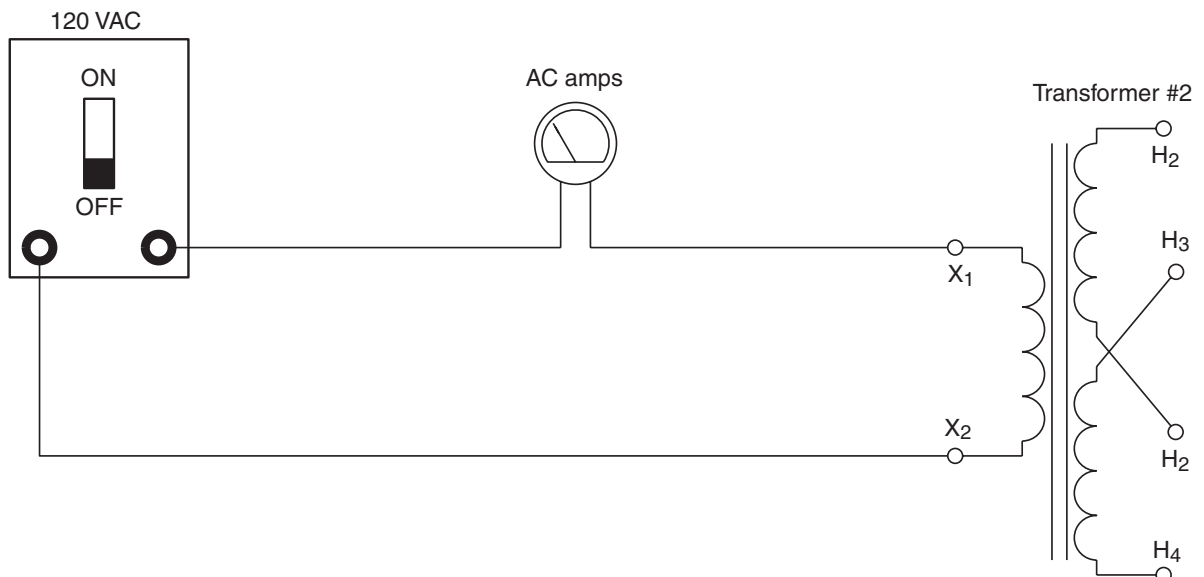

Figure 10-3 Determining the characteristics of the low-voltage winding for the second control transformer.
19. Using control transformer #2, connect the circuit shown in Figure 10-3.